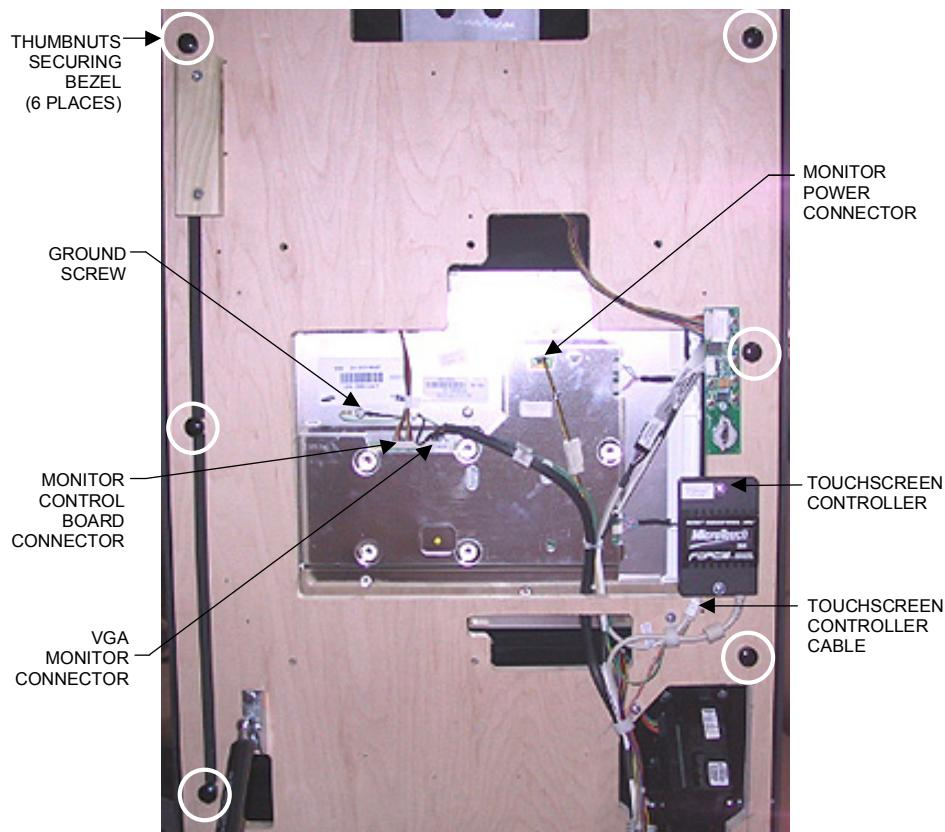

FIGURE 4 - FORCE FUSION WITH ELECTRONICS BOX - UNDERSIDE OF BEZEL
3. ***Force games:*** Remove the 6 thumb-nuts fastening the bezel to the game (see Figure 4) and remove the bezel.
Ion games: Disconnect the dongle wire from the top of the electronics box and the fast-on connectors from the coin mech (see Figure 5). Remove the 6 thumb-nuts fastening the bezel to the game (see Figure 4). Lift up on the bezel and disconnect the joystick harness (black, 10-pin connector) located between the bezel and the wooden frame. Remove the bezel.
4. ***Force games:*** Carefully remove the screws fastening the touchscreen controller (see Figure 4) to the game and disconnect the cable from the back of the controller; also disconnect the ground screw.
6. Disconnect the VGA monitor connector, as well as the monitor power connector and the monitor control board connector. (For Force games, see Figure 4; Ion games, see Figure 5.)
2. Connect the VGA monitor connector and ground screw, the monitor control board connector, and the monitor power connector to the new monitor. (See Figure 4 for Force games, Figure 5 for Ion games.)
controller (making sure that the cable's pins are correctly aligned) and secure the controller with the existing hardware (Figure 4).
4. Remove the screws fastening the touchscreen controller (see Figure 4) to the game and *carefully* disconnect the cable from the back of the controller. Disconnect the ground screw, and release the cables from the cable clamps. See Figures 9 and 10.